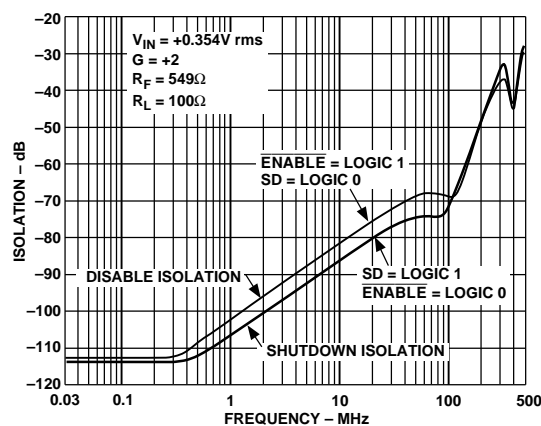

Figure 14. AD8174R Disable and Shutdown Isolation vs. Frequency
⁷AD8174 only. Shutdown (SD) pin is grounded. Mux is disabled, (i.e., $\overline{\text{ENABLE}} = \text{Logic 1}$) and all inputs are driven simultaneously with $V_{IN} = 0.354$ V rms. Output is monitored at $f = 5$ MHz and 30 MHz; $R_L = 100$ Ω. In this mode, the output impedance of the disabled mux is very high (typ 10 MΩ), and the signal couples across the package; the load impedance and the feedback network determine the crosstalk. For instance, in a closed-loop gain of +1, $r_{\text{OUT}} \approx 10$ MΩ, in a gain of +2 ($R_F = R_G = 549$ Ω), $r_{\text{OUT}} = 1.1$ kΩ (see Figure 14).
⁸AD8174 only. $\overline{\text{ENABLE}}$ pin is grounded. Mux is shutdown (i.e., SD = Logic 1), and all inputs are driven simultaneously with $V_{IN} = 0.354$ V rms. Output is monitored at $f = 5$ MHz and 30 MHz; $R_L = 100$ Ω. (see Figure 14). The mux output impedance in shutdown mode is the same as the disabled mux output impedance.